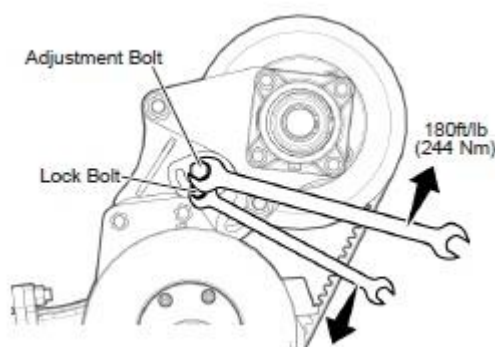

Figure 35
7. If unable to tension the belt using HZ, while holding the lock bolt in place with one wrench, place a second wrench on the adjustment bolt and lift up with 180 ft/lb (244 Nm) of force. Ensure the lock bolt is tight. Figure 35